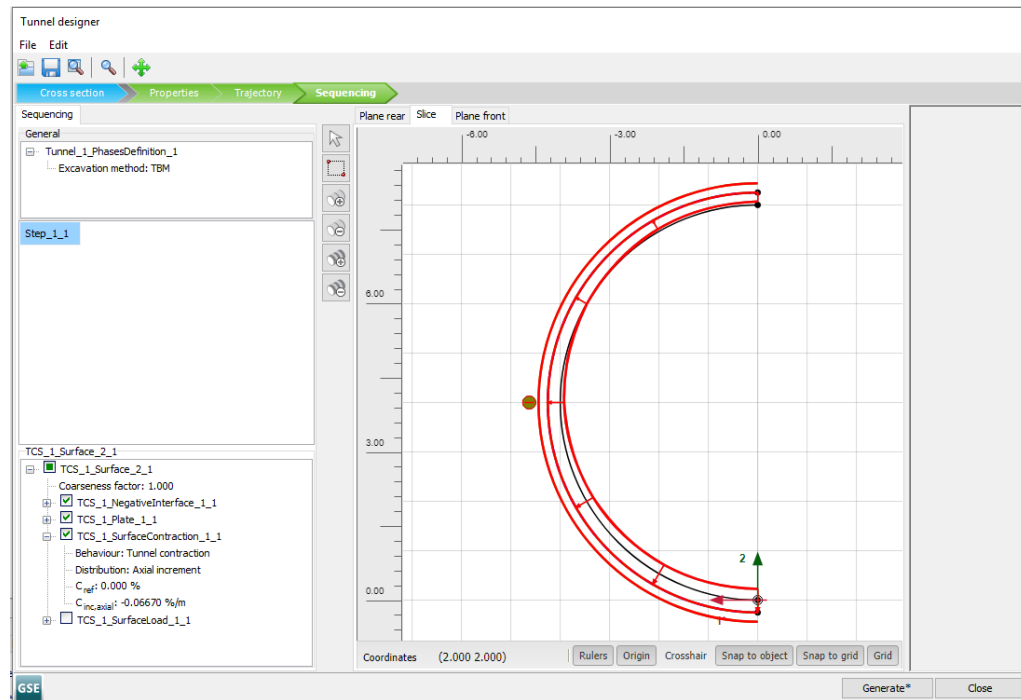

Figure 72: Slice tab Tunnel designer <Step_1_1> TBM activation and definition of surface contraction
- Staying on the **Slice** tab, select the outer surface. Then go to the **Selection explorer** and activate: the negative interface, the plate and the surface contraction (Figure 72 (on page 99)).